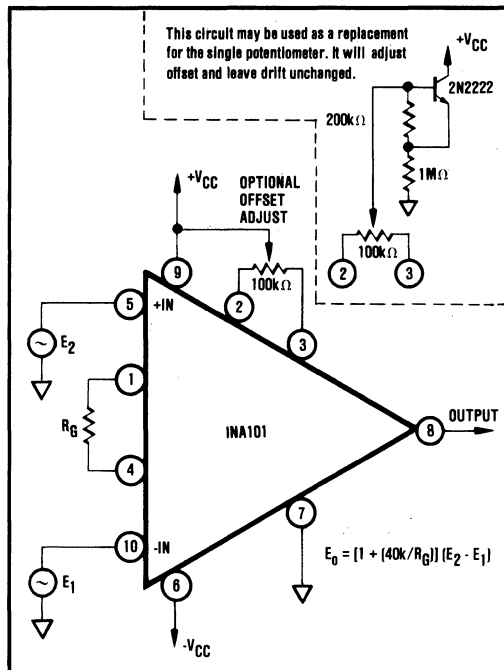
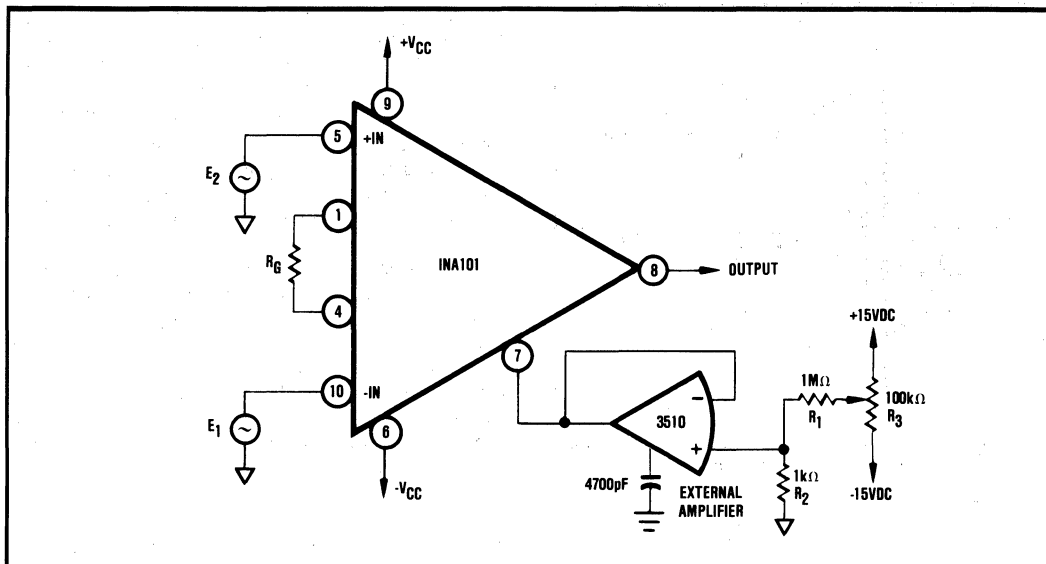

FIGURE 2. Basic Circuit Connection for the INA101 Including Optional Input Offset Null Potentiometer.
FIGURE 3. Optional Output Offset Nulling or Offsetting Using External Amplifier (Low Impedance to Pin 7).
At +25°C and in circuit of Figure 2 unless otherwise noted.
Figure 2 shows the simplest configuration of the INA101. The gain is set by the external resistor, R_G with a gain equation of $G = 1 + (40K/R_G)$. The reference and TCR of R_G contribute directly to the gain accuracy and drift.
The optional offset null capability is shown in Figure 2. The adjustment affects only the input stage component of the offset voltage. Thus, the null condition will be disturbed when the gain is changed. Also, the input drift will be affected by approximately $0.31 \mu V/^{\circ}C$ per $100 \mu V$ of input offset voltage that is trimmed. Therefore, care should be taken when considering use of the control for removal of other sources of offset. Output offsetting can be accomplished in Figure 3 by applying a voltage to the Common (pin 7) through a buffer amplifier. This limits the resistance in series with pin 7 to minimize CMR error. Resistance above 0.1Ω will cause the common-mode rejection to fall below 106dB. Be certain to keep this resistance low.
The basic circuit connection for the INA101 is shown in Figure 2. The output voltage is a function of the differential input voltage times the gain.
It is frequently desirable to null the input component of offset (Figure 2) and occasionally that of the output (Figure 3). The quality of the potentiometer will affect the
3. Adjust to $100k\Omega$ potentiometer in Figure 2 until the output reads $0V \pm 1mV$ or desired setting. Note that the offset will change when the gain is changed. If the output component of offset is to be removed or if it is desired to establish an intentional offset, adjust the $100k\Omega$ potentiometer in Figure 3 until the output reads $0V \pm 1mV$ or desired setting. Note that the offset will not change with gain, but be sure to use a stable external amplifier with good DC characteristics. The